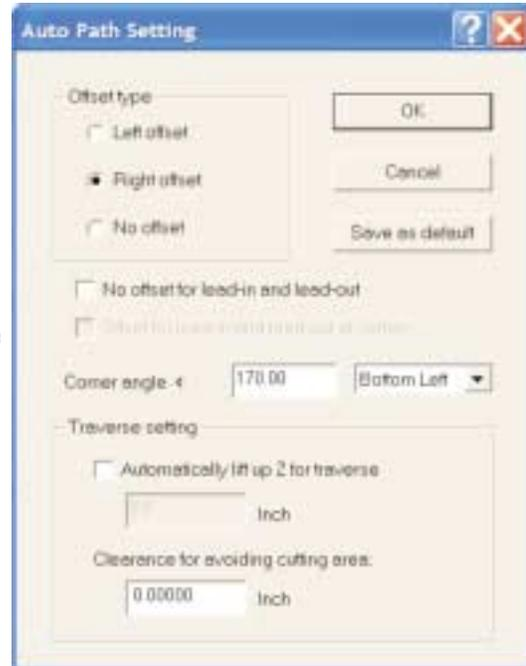

Figure 17. Auto Path Setting dialog box
4. Select **Preprocess | Auto order path** to open the Auto path setting dialog box (see Figure 17).